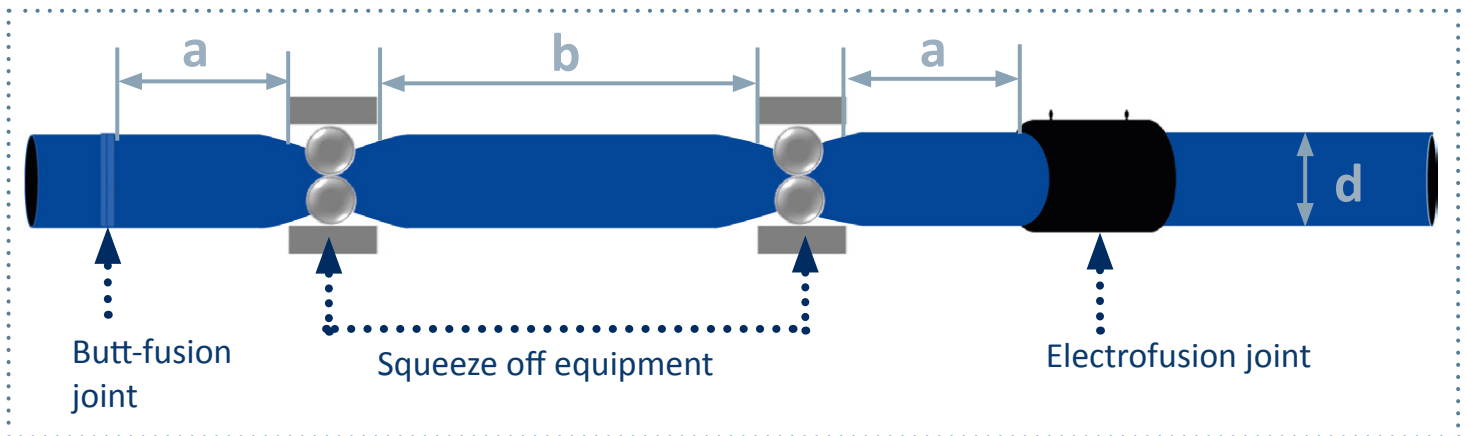

Fig 2.
- 2) Inspect the pipeline, ensure that there are no joints or fittings within a minimum of 3 pipe diameters either side of the position of the squeeze off tool; this includes electrofusion, butt fusion and mechanical joints. Where fittings or joints are present within 3 pipe diameters of the squeeze off position, then an alternative squeeze off location must be selected (see Fig. 2).
3) If there is a requirement to use 2 squeeze off units, the separation distance (B) between the squeeze off units should be a minimum of 6 times the pipe diameter (see Fig. 2)